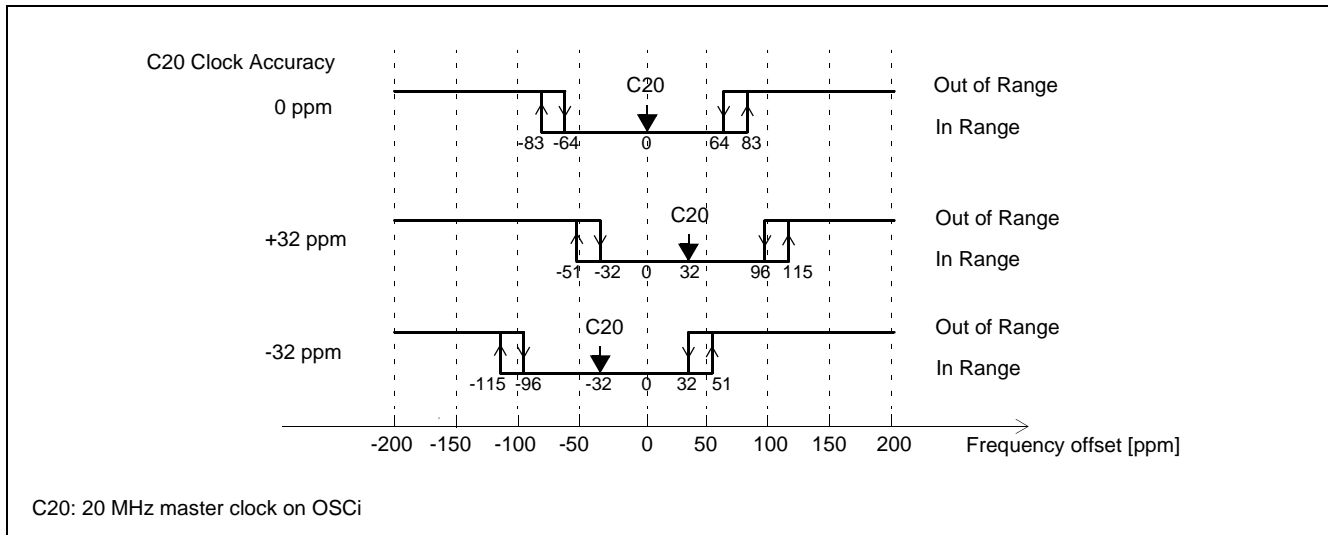
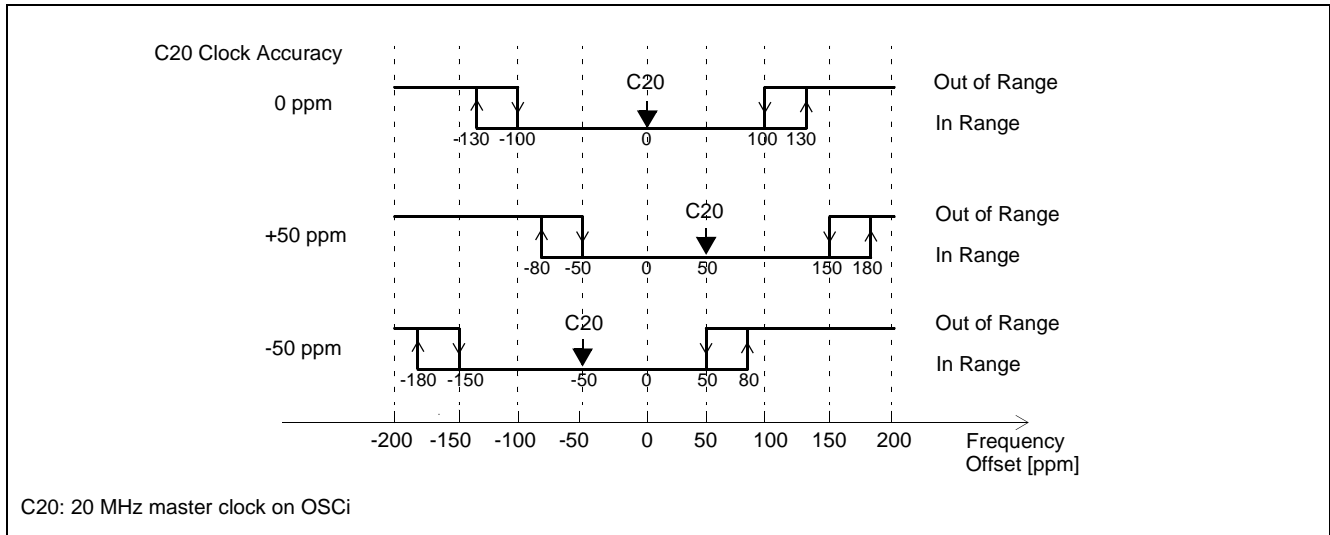

Figure 5 - DS1 Mode Out-of-Range Limits (OOR_SEL=0)
Figure 6 - E1 Mode Out-of-Range Limits (OOR_SEL=1)
- **Precise Frequency Monitor (PFM):** This circuit determines whether the frequency of the reference clock is within the applicable out-of-range limits selected by the OOR_SEL pin, see Figure 5, Figure 6 and Table 1. It will take the precise frequency monitor up to 10 s to qualify or disqualify the input reference.